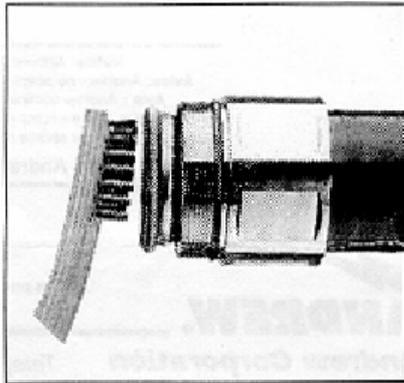

Figure C-15 Brushing off residuals
- 9) Brush off the burr and residuals, as shown in Figure C-15.